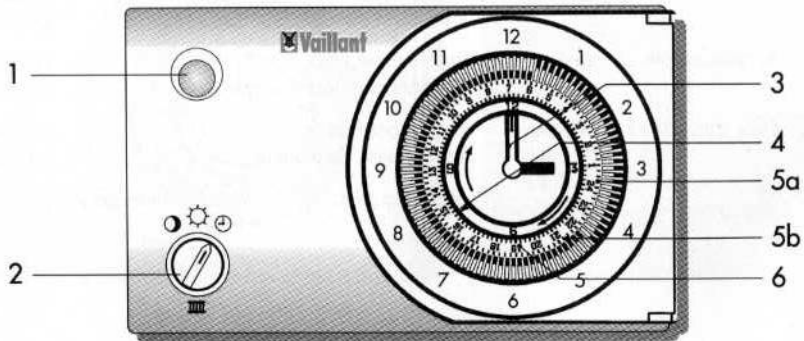

Fig. 1:
Indicates the time of day e.g. Fig. 1 "15.00"
With the operating mode switch fig. 1 (2), you can adapt the operating mode of your heating system according to your personal needs.